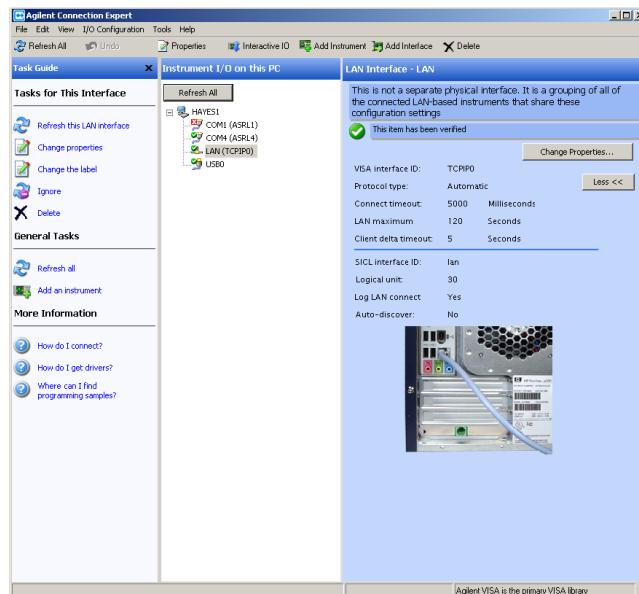

Figure 33 Agilent Connection Expert, LAN Connections
Click the Agilent IO Control icon in Windows' Notification area, and select **Agilent Connection Expert**. When the main screen appears (Figure 33), you will see a map of the system connections in the Explorer Pane, **Instrument I/O on this PC**. If the interface and instrument(s) you want to configure display in the Explorer Pane, proceed to “Step 4: Communicate with Instruments” on page 112!
- 1 From the Connection Expert main screen, select the LAN interface node in the Explorer Pane (center pane). **LAN (TCPIP0)** is selected in Figure 33. Right-click to get a menu and select **Add Instrument**. (Alternatively, you could click the **Add Instrument** button on the tool bar, the Task Guide, or the I/O Configuration menu.)